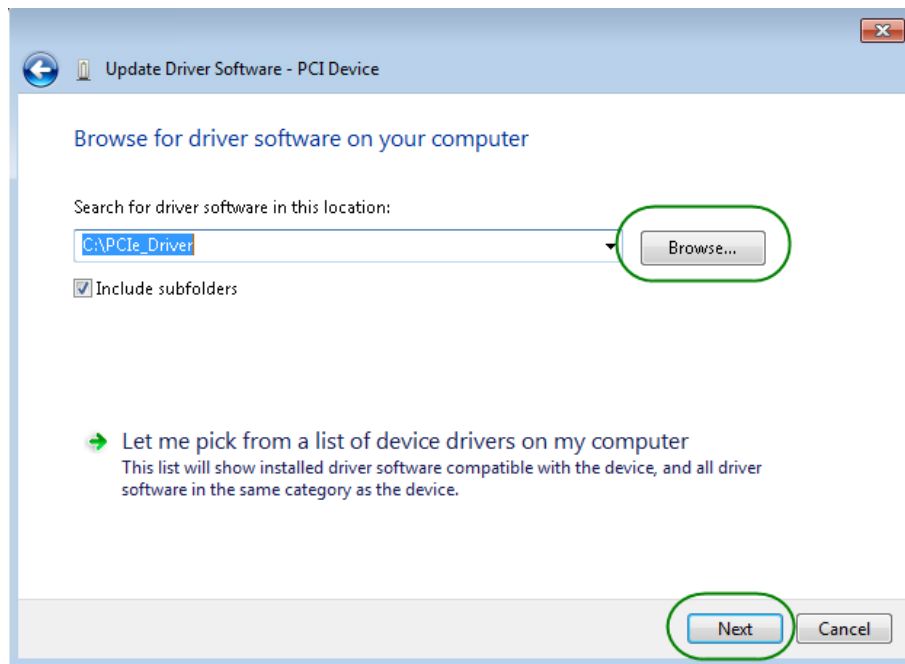

Figure 7-6 Browse for driver software on your computer
9. In the **Browse for driver software on your computer** dialog, click the **Browse** button to specify the folder where altera_pcie_din_driver.inf is located, as shown in **Figure 7-6** Click the **Next** button.